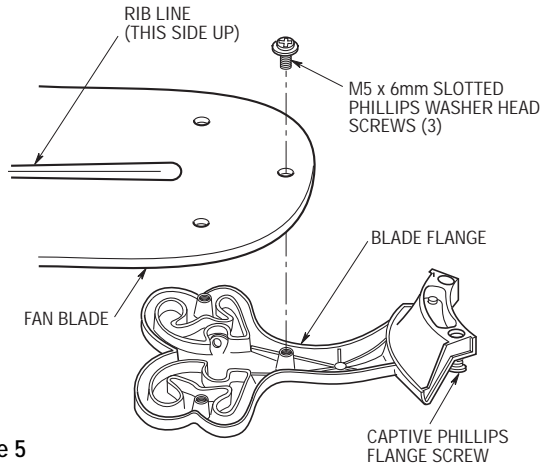

Figure 5
7. Mount blade flanges to fan blades using three M5 x 6mm slotted Phillips washer head screws (Figure 5).
IMPORTANT: THE SIDE OF THE FAN BLADE HAVING THE RIB LINE MUST BE FACING UPWARDS AS SHOWN IN FIGURE 5.